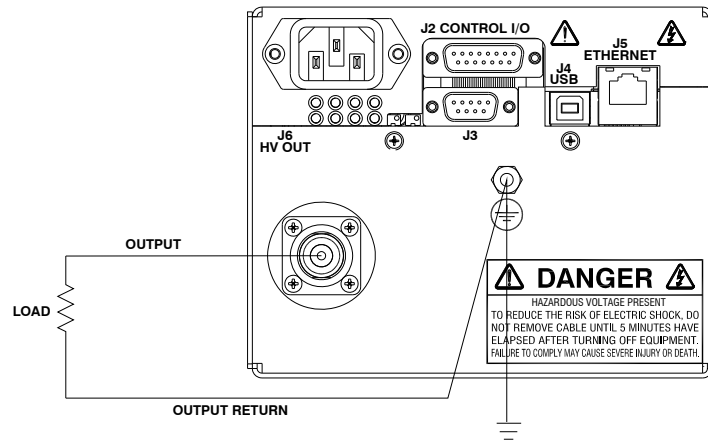

Figure 3.1 Proper Grounding Technique
C) **PROPER GROUNDING TECHNIQUE:** The chassis of high voltage power supplies must be grounded, preferably to a water system ground using copper pipe or other earth ground. A ground stud is provided on the front panel. See Figure 3.1 for a typical operating setup. The return line from the load should be connected to the power supply chassis. Using a separate external ground at the load is not recommended. An IEC 320 connector is provided for connection to the line voltage source. A standard line cord is also provided.